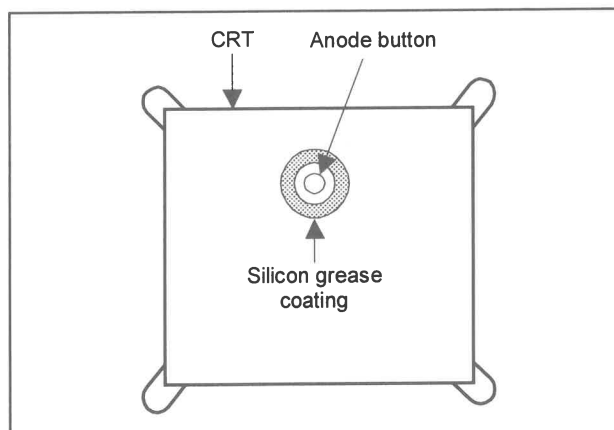
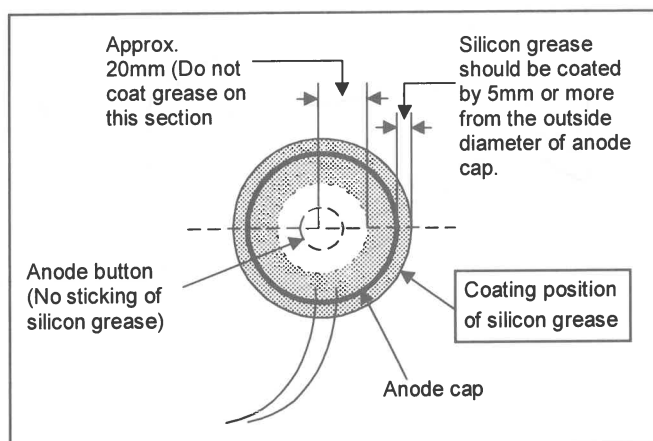

Fig. 6
Fig. 7
- Subsequent to replacement of the CRT and HV transformer or repair of the anode cap, etc. by dismantling them, be sure to coat silicon grease for electrical insulation as shown in Fig.6. Wipe around the anode button with clean and dry cloth. (Fig.6) Coat silicon grease on the section around the anode button. At this time, take care so that any silicon greases dose not sticks to the anode button. (Fig.7)